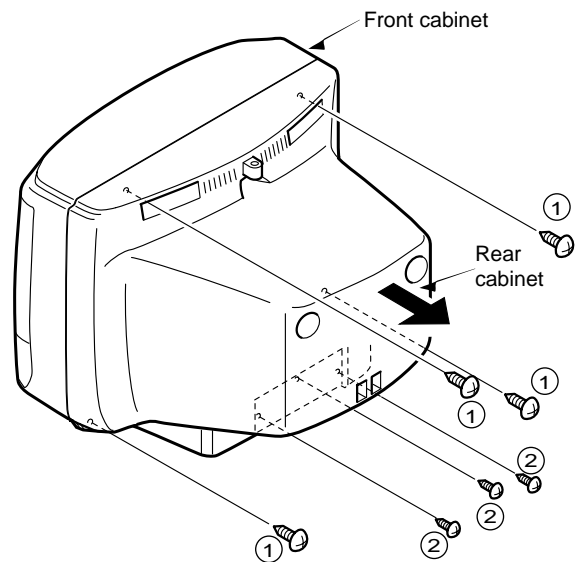

Figure 1-1
- (1) Remove four screws 1, and three screws 2, then remove the rear cabinet in the direction of the arrow. (See Figure 1-1)